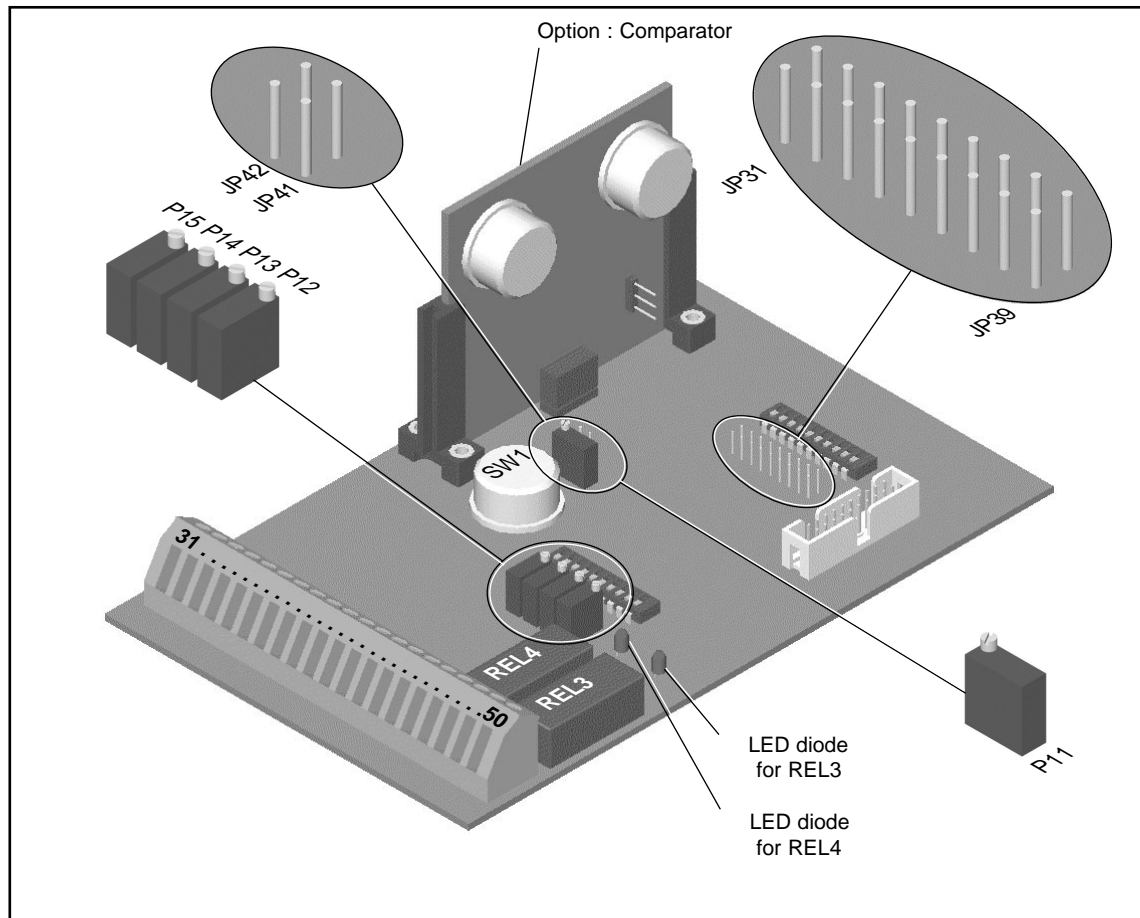

Fig. 3-23 : Location of the adjustment elements.
Connect a millivoltmeter between the terminals 15 ($U_{O/P}$) and 9 (0 V) of the load monitoring unit. Adjust P9 (refer to Figure 3-15 for its location, circuit of the lower part) to obtain $U_{O/P \text{ level3}}$ with an accuracy of ± 20 mV. Turn P12 until the illuminated diode of relay REL3 lights up (see Figure 3-23). Then turn P12 slowly until the diode of REL3 goes out (the detection level has been reached).
Connect a millivoltmeter between the terminals 15 ($U_{O/P}$) and 9 (0 V) of the load monitoring unit. Adjust P9 (refer to Figure 3-15 for its location, circuit of the lower part) to obtain $U_{O/P \text{ level4}}$ with an accuracy of ± 20 mV. Turn P14 until the illuminated diode of relay REL4 lights up (see Figure 3-23). Then turn P14 slowly until the diode of REL4 goes out (the detection level has been reached).
- Connect jumper JP42 and remove jumper JP41 (their location is shown in Figure 3-23)
The micro-switches SWD 6 and 7 (see fig. 3-20 indicating their location on the printed circuit board), as well as the jumper JP41 (see fig. 3-23 indicating its location on the printed circuit board) allows one to select the taring circuitry input value. This value corresponds to the TARE signal, which will be subtracted to obtain the NET signal NET (TARING O/P, terminal 38).